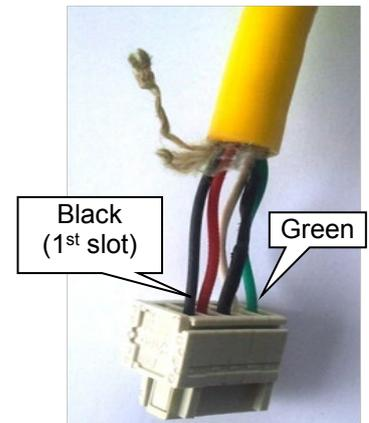

Figure 8-13: Connecting the sensor cable to sensor end connector
8.7.16 Verify wiring of sensor cable to 5 pin connector as per figure 8-13.